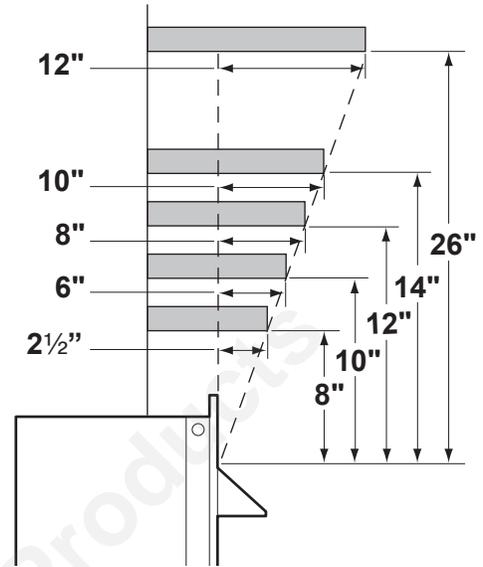

Figure 8. Minimum Mantel Clearances
**Mantel clearances:** The canopy supplied with the unit must be installed. If a combustible mantel is installed. It must meet the clearance requirements shown in Figure 8.